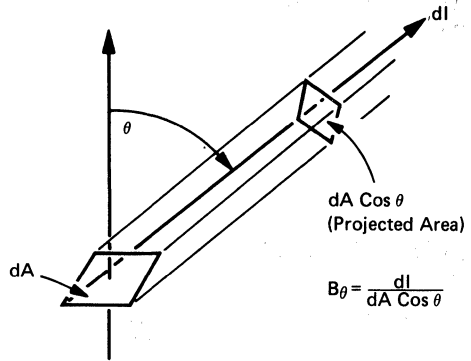

Figure 5. Definition of luminance.
For an extended radiating surface, (such as an LED chip), each element of area contributes to the luminous intensity of the source, in any given direction. The luminous intensity contribution in the given direction, divided by the projected area of the surface element in that direction, is called the LUMINANCE (B) of the source (in that direction); (Fig. 5). The quantity is sometimes called photometric brightness, or simply brightness. The use of the term brightness on its own, should be discouraged, as this involves various subjective properties such as texture, color, sparkle, apparent size, etc. that have psychological implications.